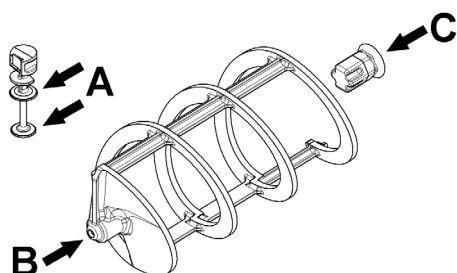

figure 9
**2** Lubricate the tap piston, the hexagonal joint and the mixer at the points indicated in figure 9, using only the grease that came with the machine or other grease for use with food.